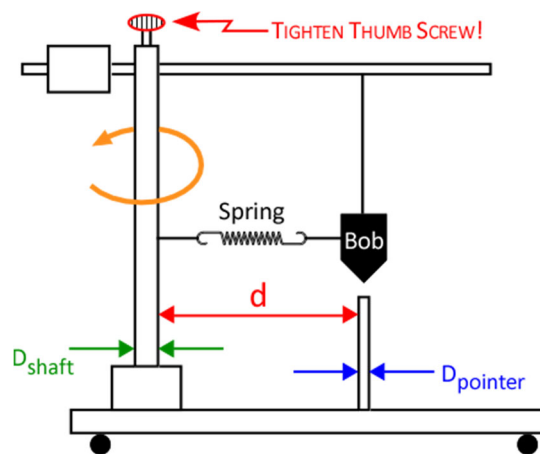

Figure 1: Rotating Bob
3. The radius of Bob’s orbit, R_{orbit} , is the distance from the center of the rotating shaft to the center of the pointer. Calculate the radius of the orbit from the radii of the rotating shaft and the pointer, and the closest distance between them – note that the radius is not simply the measurement of d (Figure 1). Use vernier calipers to measure the diameters, but you’ll need to use a meter stick and calipers to measure d . Double check your measurement of the radius; each person in the group should take their own measurements. Check the value of your measured radius with your instructor.